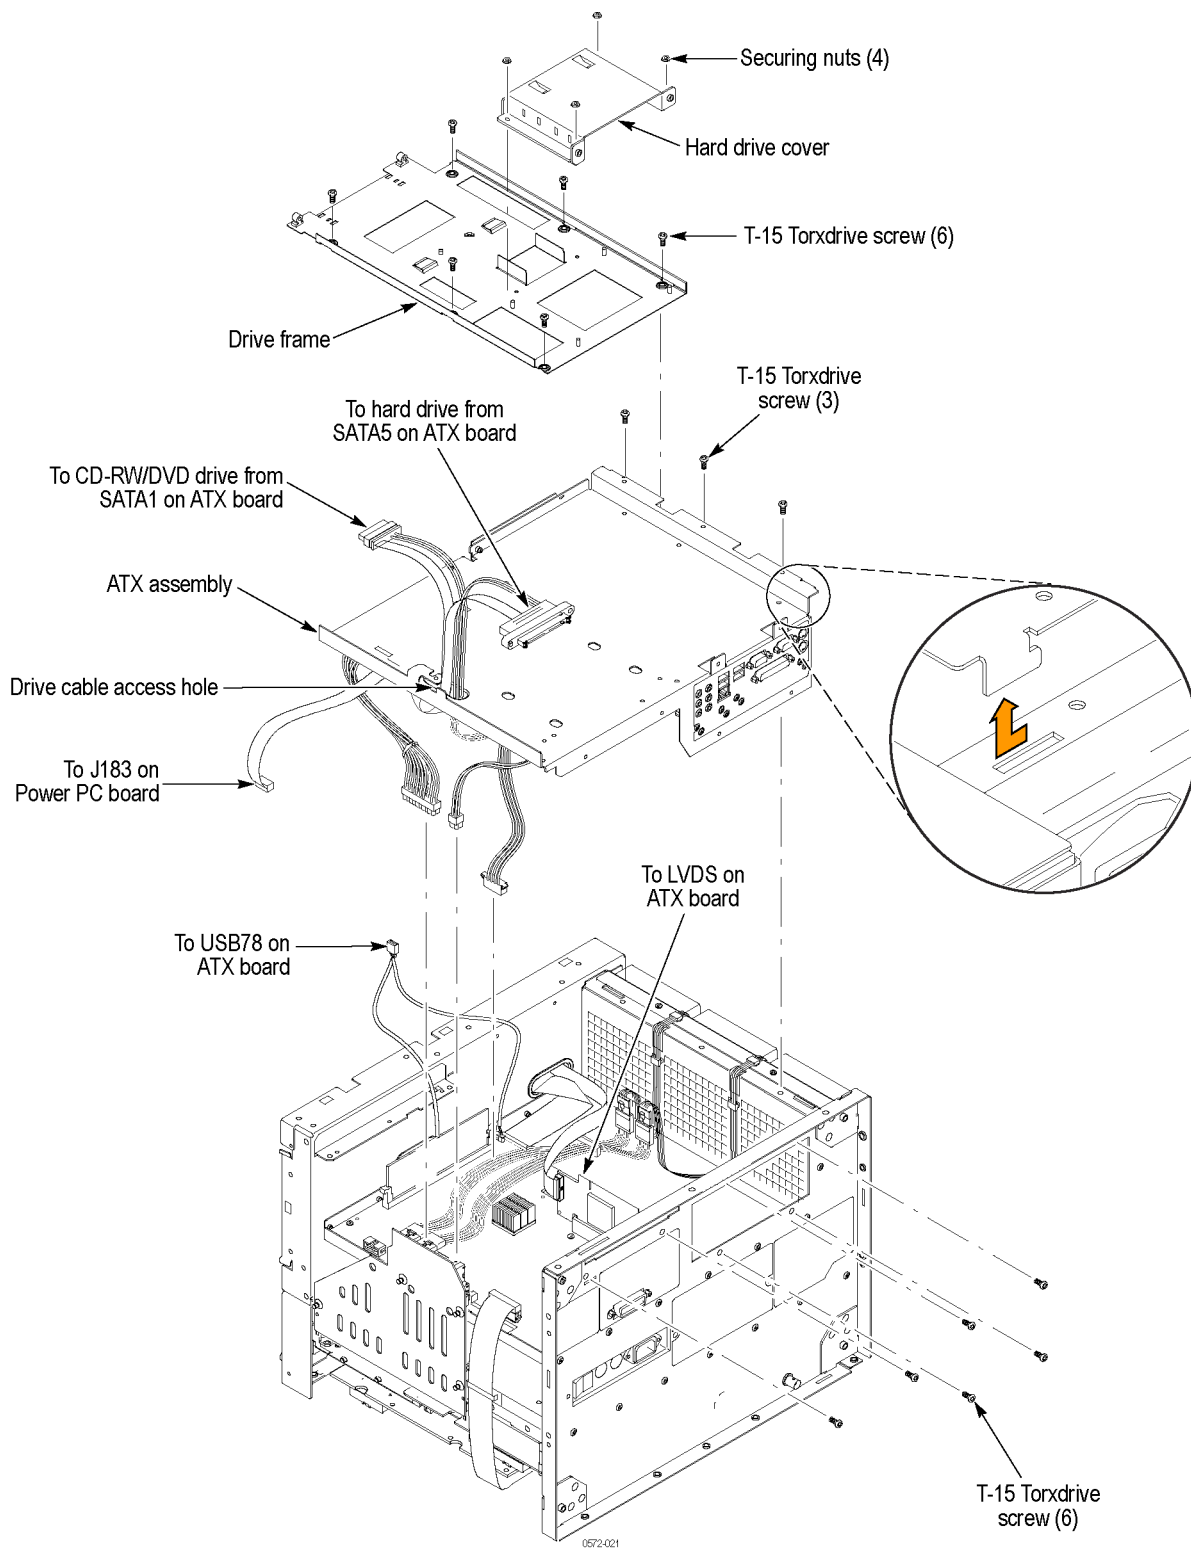

Figure 14: ATX assembly removal
2. *To remove the ATX Assembly:* (See Figure 14.)